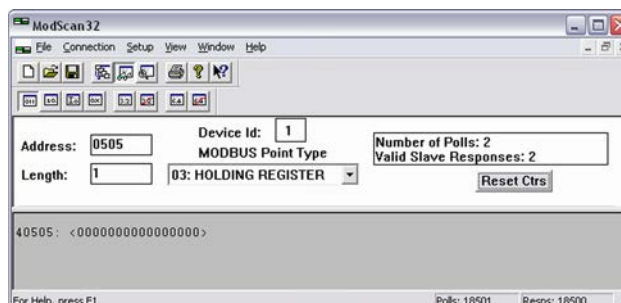

Fig. 280: ModScan32 single bit view
1. Using the "display options" set the format to binary to view single bits (Fig. 280).